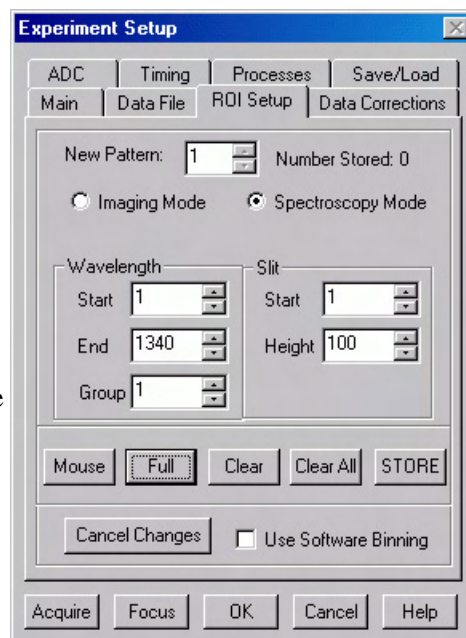

Figure 41. ROI dialog box
6. On the **ROI** tab page select **Spectroscopy Mode** as shown in Figure 41. The **Use Full Chip** selection on the **Main** tab page overrides any ROI settings that may be present.